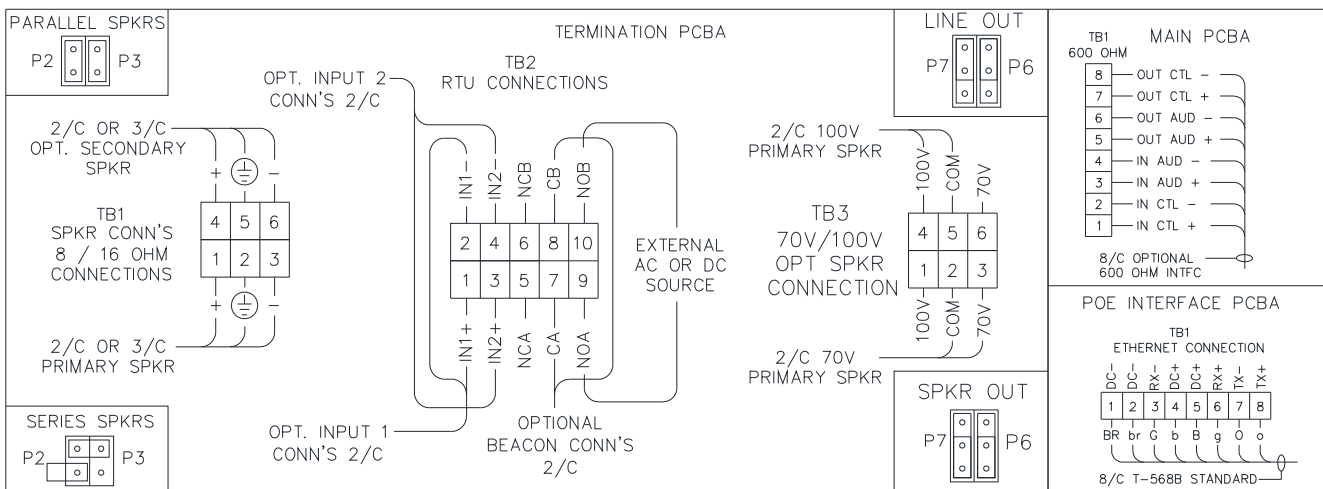

Figure 3. HUBBCOM PoE Connection Diagrams
4. **8-/16-ohm speakers** (see Figure 3):
5. Terminate the RTU inputs and output to terminal block TB2 on the termination PCBA (see Figure 3).
8. Terminate the PoE connection to terminal block TB1 on the PoE interface PCBA (see Figure 3).